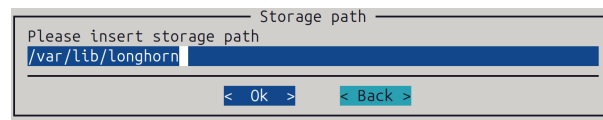

Figure 2.11: NetQ deployment: setting the storage path for Longhorn
11. The storage path for Longhorn (a replicated block storage system for Kubernetes) is set (figure 2.11):